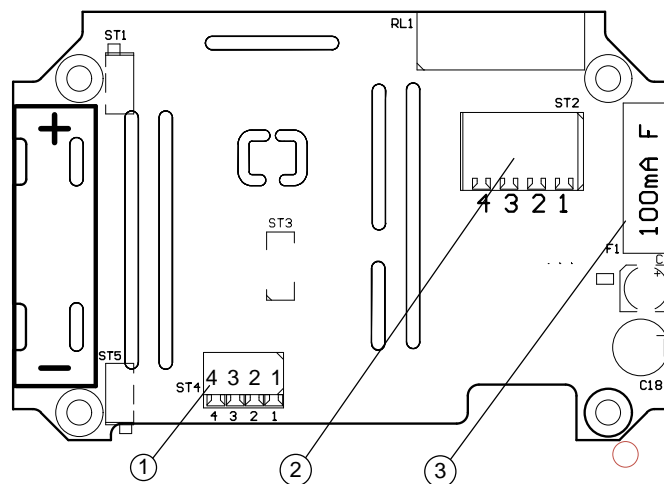

Figure 8-2: Connections and fuse on electronic board of the SAM module
The device has a fuse (100 mA F) in the connection of the external power supply, cf. Figure 8-2, ③.
Two PT1000 probes can be fixed to the connecting terminal ① in Figure 8-2 (spring clip 0.2 – 1.5 mm², designated “ST4” on the board).
A connecting terminal ② in Figure 8-2 (spring clip 0.1 – 3.0 mm², designated “ST2” on the board) serves to connect external power supply, digital input and relay contact.